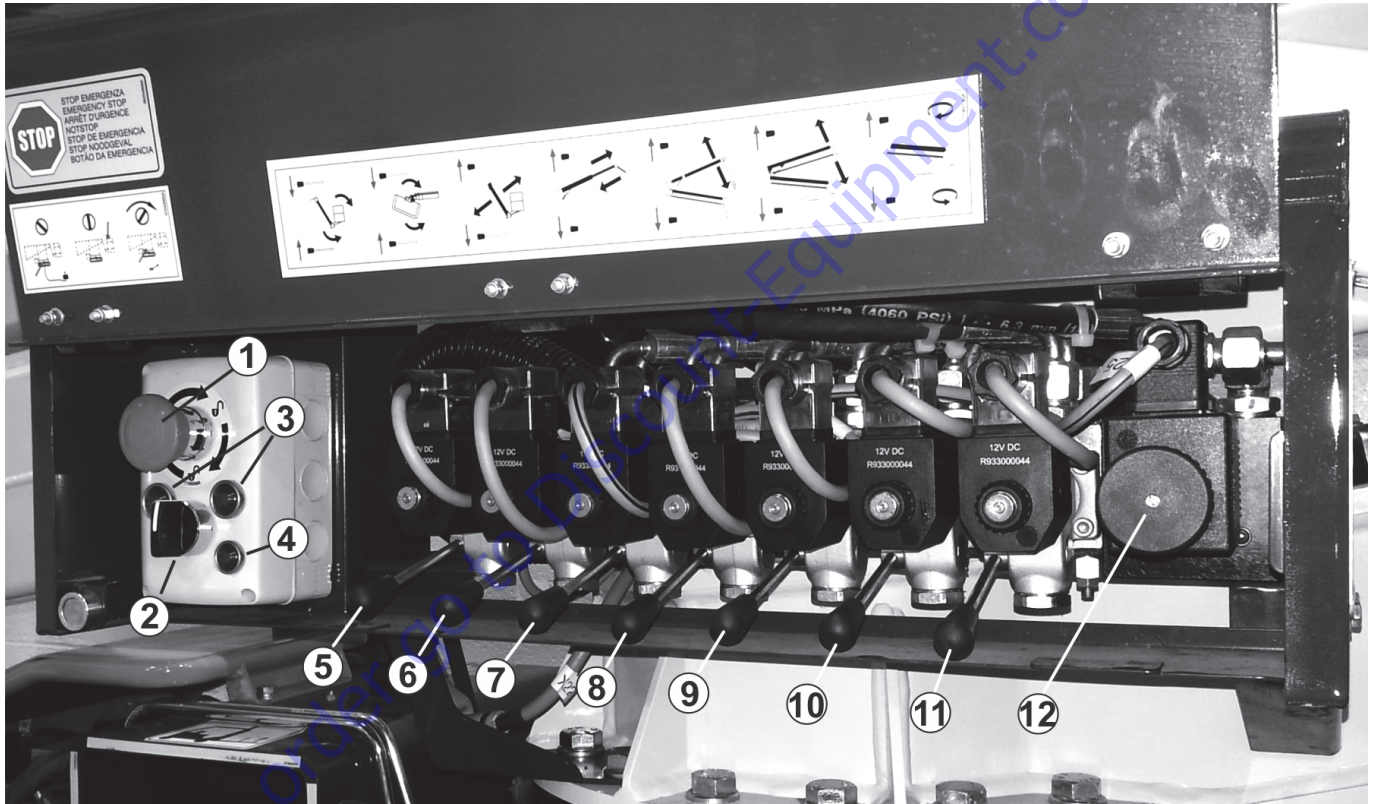

Figure 3-5. Ground Control Station
See Figure 3-5., Ground Control Station - with Enable Knob
Engine Start Buttons (*see Figure 3-5.*)
3. Function Enable Indicator (*see Figure 3-5.*)
To enable this position it is necessary to have the select switch at the ground controls (*Item 2* - *Figure 3-5.*) turned counterclockwise after connecting the platform/remote